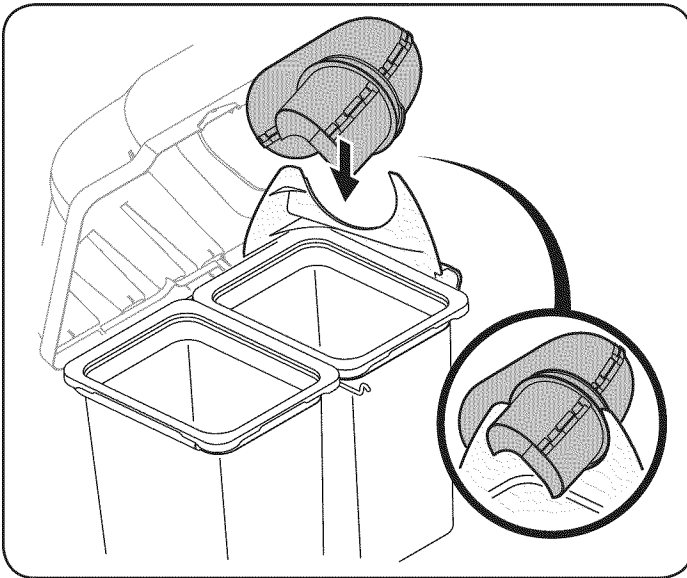

Figure 25
8. With the bagger cover open, pivot the upper chute tube into position so that the chute rests in the upper chute support. See Figure 25.